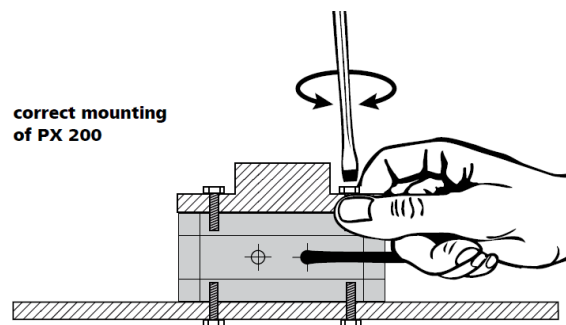

fig. 4: fix movable parts while screwing and unscrewing
- Prevent the transfer of momentum onto the hinges. The load to be mounted, or the moving part of the actuator has to be fixed during screwing and unscrewing (fig. 4).